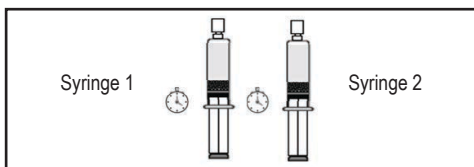

Figure 13.
- 4.1 Gently swirl contents and allow microspheres to settle towards the plunger. It may take several minutes to fully settle (Figure 13).